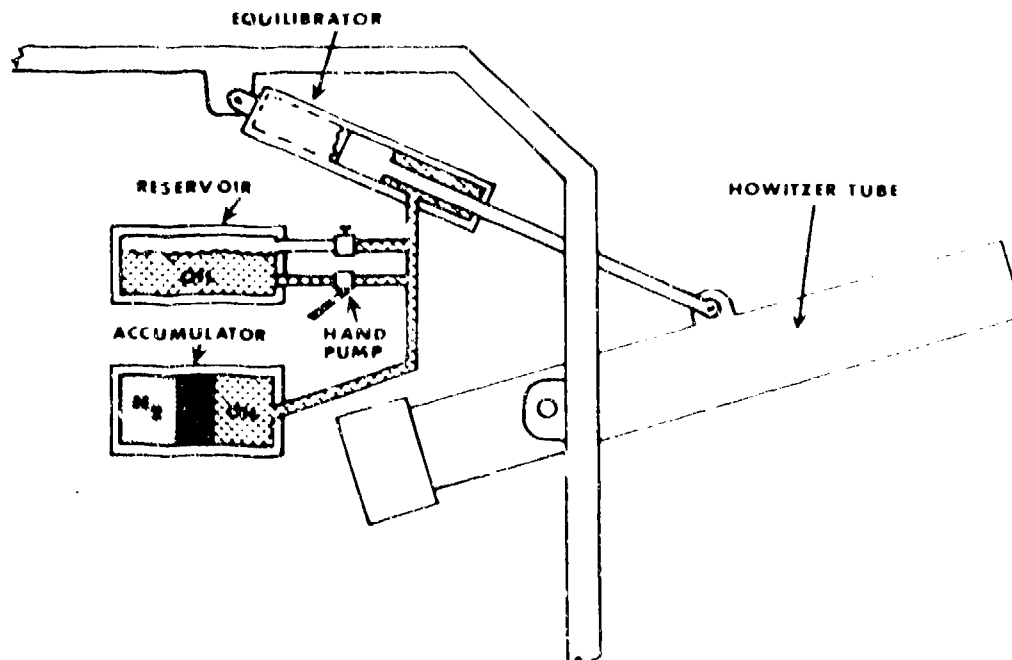

Figure 2-15. Hydropneumatic equilibribrator.
(3) *Hydropneumatic equilibrator.* The hydropneumatic equilibrator (fig 2-15) consists of a cylinder with a movable piston and rod and a pressure tank connected to the cylinder by a short pipe. These parts are permanently fastened to the top carriage. The piston rod is fastened to the cradle. Liquid from the cylinder passes through the pipe connection to the tank. As the tube is depressed, the piston moves to the rear, forcing the liquid into the tank against the gas pressure. The increasing pressure on the piston keeps the tube in balance. As the tube is elevated, the gas pressure forces the liquid back into the cylinder, moving the piston forward. This pressure aids in elevating the tube and holding it in position.